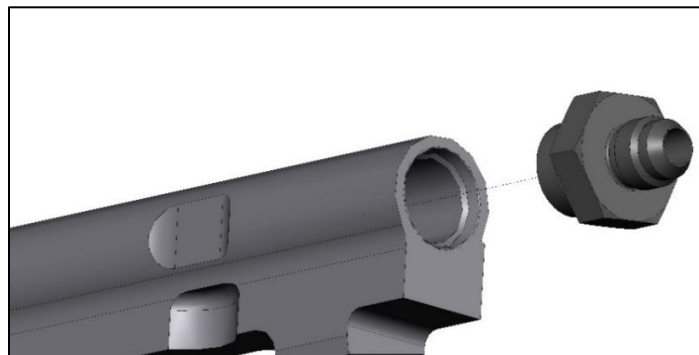

Figure 1
10. Lubricate the -6 adapter O-rings with clean oil. Install each -6 adapters onto each end of the rails before installing the rails on the intake (**Figure 1**).